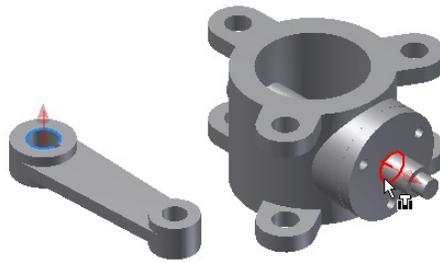

Figure 9-68 Selecting the edges to apply the **Insert** constrain
6. Choose the **Insert** button and then select the top circular edge of the hole with the keyway in the Arm as the first edge, as shown in Figure 9-68.
7. Select the circular edge on the front planar face of the Retainer as the second edge to apply the **Insert** constraint, refer to Figure 9-68. Next, choose the **Apply** button.